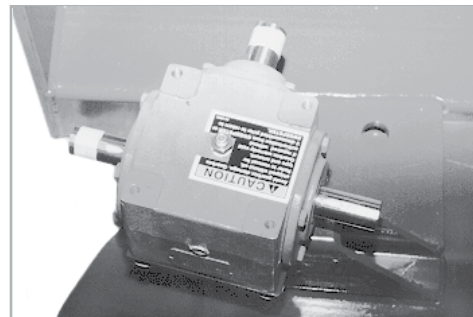

figure 5
4. Reinstall the gearbox (figure 5). The vent plug must be on top of the gearbox.